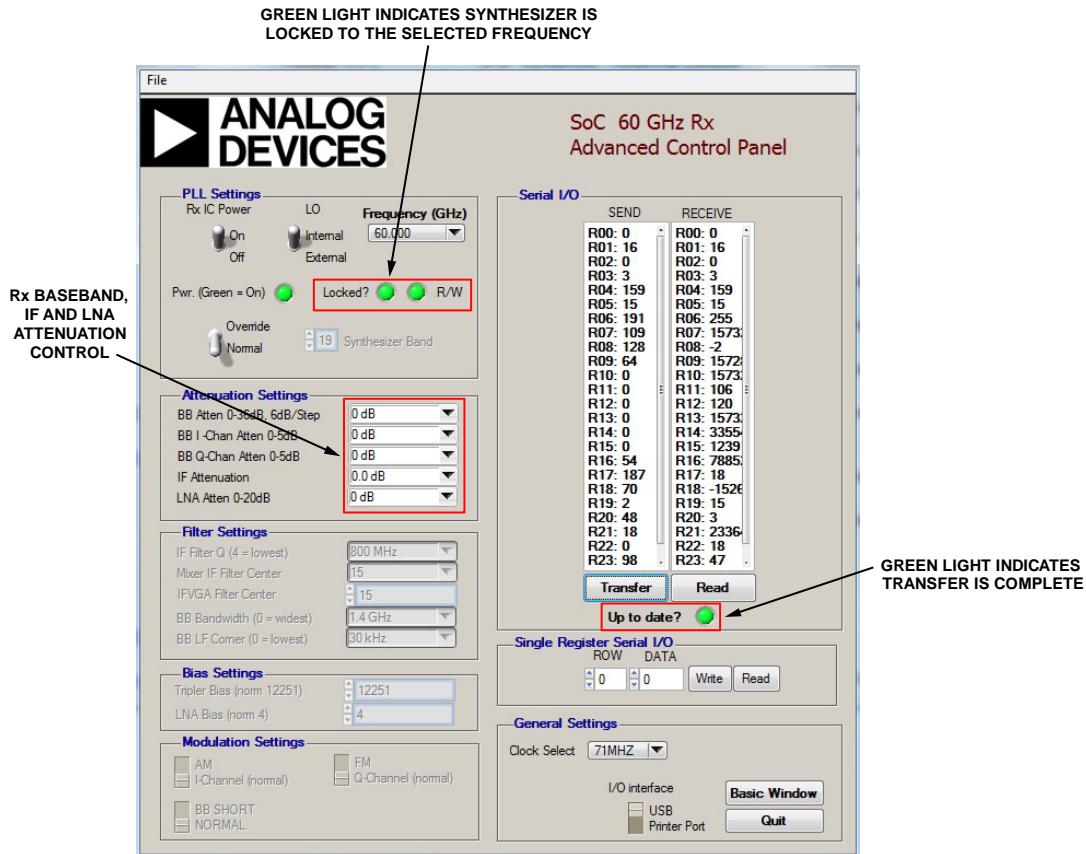

Figure 9. SoC 60GHz Tx Advanced Control Panel Window for the HMC6301 Rx GUI After Successfully Programming the HMC6301 to 60 GHz
2. Click the **Transfer** button and the HMC6301 device programs and locks to the desired frequency. If the HMC6301 device is successfully programed, the **R/W LED** under **PLL Settings** turns green, indicating the read/write operation is properly executed. If the device locks to the selected frequency, the **Locked?** LED under the **PLL Settings** also turns green (see Figure 9).
Figure 9 shows a successful data transfer and synthesizer lock. The receiver then functions on the selected channel. The Rx baseband, IF attenuation, and LNA attenuation, under the